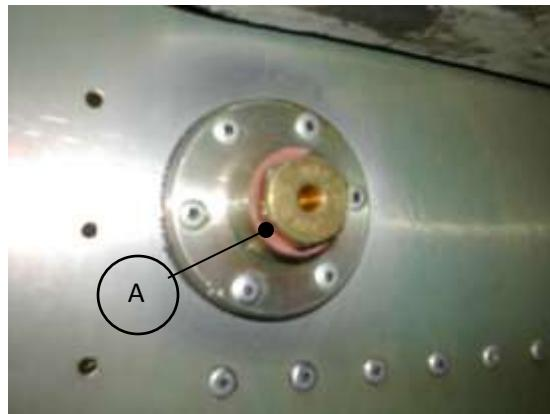

Figure 63: Wing tank fuel drain installation.
1. Observe correct washer placement (refer to Figure 63). Do not reuse fibre washer. Fit new.